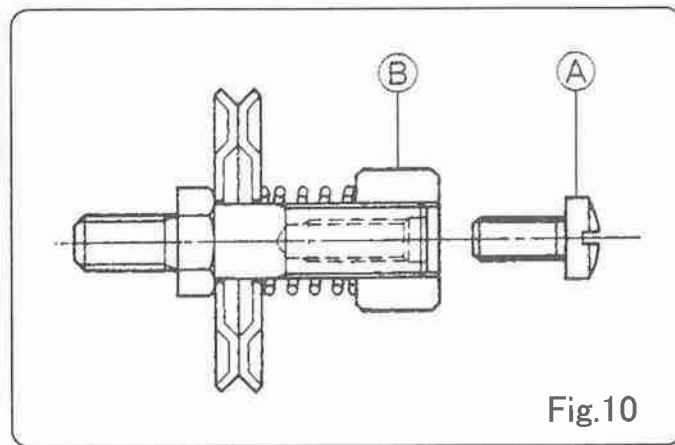

Fig.10
1. Thread Tension (Fig.10)
The thread tension spring is preset at the factory to sew PP woven cloth bags. If some adjustment is needed, first loosen screw (A) (9/64S40054) and adjust the thread tension nut (B) (245092) as per Fig.10. When the adjustment is finished, retighten screw to lock the thread tension nut.